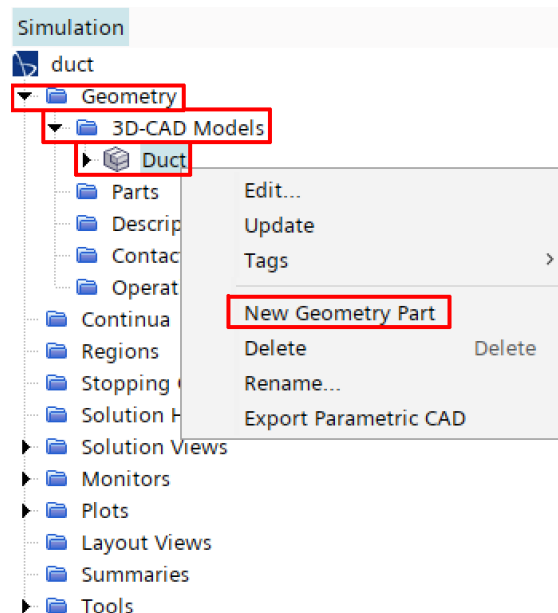

Figure 13: Process of creating a part from a 3D-CAD model.
2. To create a part from the 3D-CAD Model in STAR-CCM+, right click on Geometry → 3D-CAD Models → Duct. Select the New Geometry Part option, as shown in Figure 13.